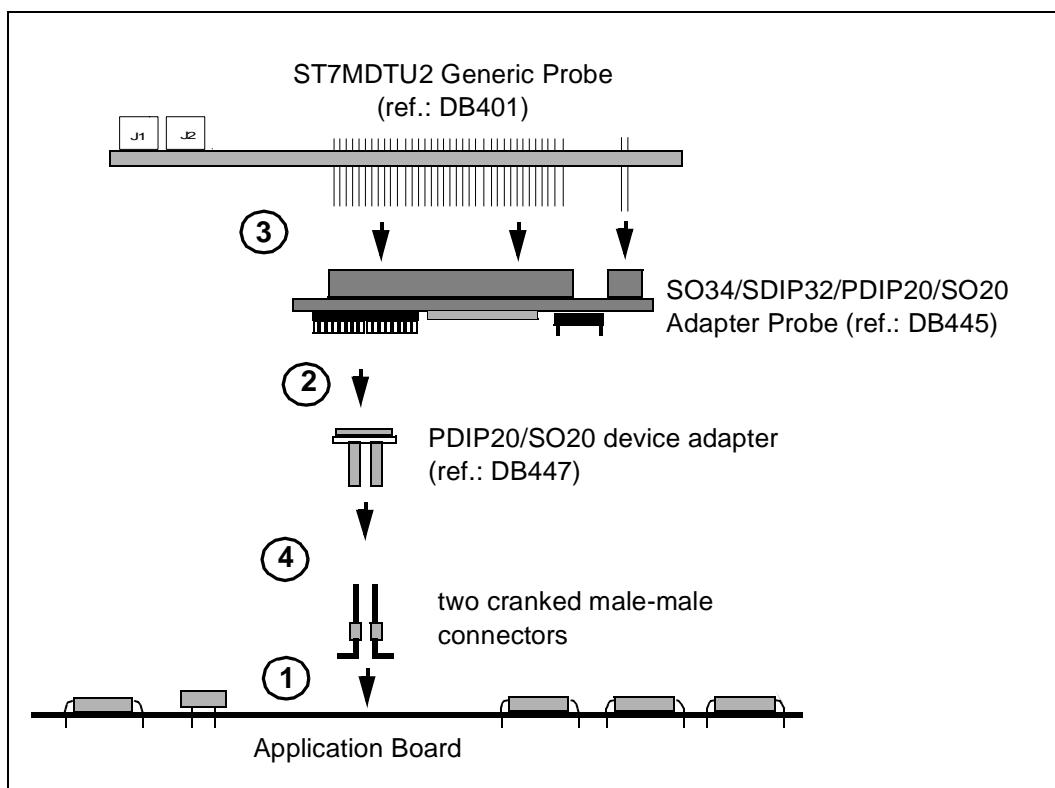

Figure 17: SO20 MCU package connections
F) If you are using the SO20 MCU package, follow these steps (refer to *Figure 17*):